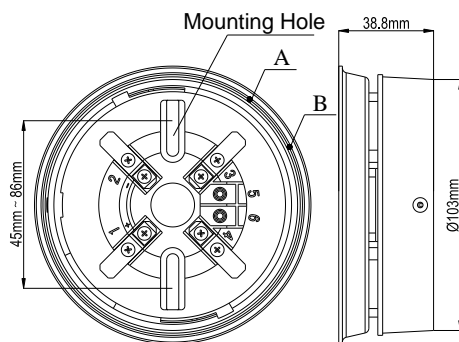

Fig. 1
Fig. 1 shows terminals of the sounder.
- 4 Align the orientation mark of the top cover to mark A (refer to Fig.1), rotate the sounder to align the mark with mark B, the top cover is installed. If it's used as detector base, take down the top cover and install the detector on it in the same method as mounting the top cover.